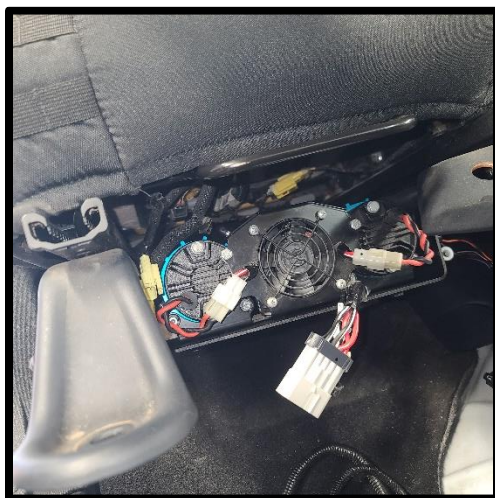

Figure 13
- 3-A) Place the compressor on the bracket with the fan facing forward. Use the four bolts provided by ARB to mount the compressor to the bracket. Start all four bolts before tightening each one. See **Figure 13**.